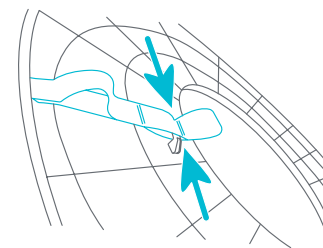

Fig. 4c
- ATTENTION:** Always secure the straps when the platform is not in use. Refer to (Fig. 4c) and (Fig. 4d).
- **Tabletop Straps:** Underneath the tabletop, put the strap into the storage slot. Pinch the strap and put the second hoop into the tab. Repeat for the other two straps (Fig. 4c).